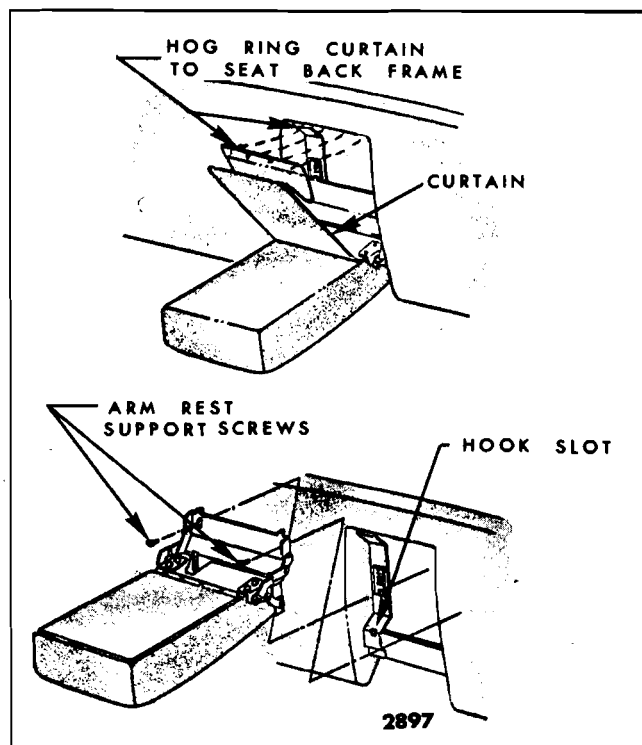

Fig. 15-38—Front Seat Back Center Arm Rest
2. At top of arm rest curtain, remove hog rings securing curtain to flange of support plate (Fig. 15-38) and pull curtain forward to expose screws securing arm rest to support linkage.
3. Remove arm rest-to-support linkage screws (Fig. 15-38) and remove arm rest and curtain from seat.
2. At top of arm rest curtain, remove hog rings securing curtain to flange of support plate (Fig. 15-38).
3. Remove two screws securing arm rest to supports on seat back (Fig. 15-38); then, carefully lift arm rest and linkage upward to disengage hooks of arm rest from slots in supports and remove assembly from seat.